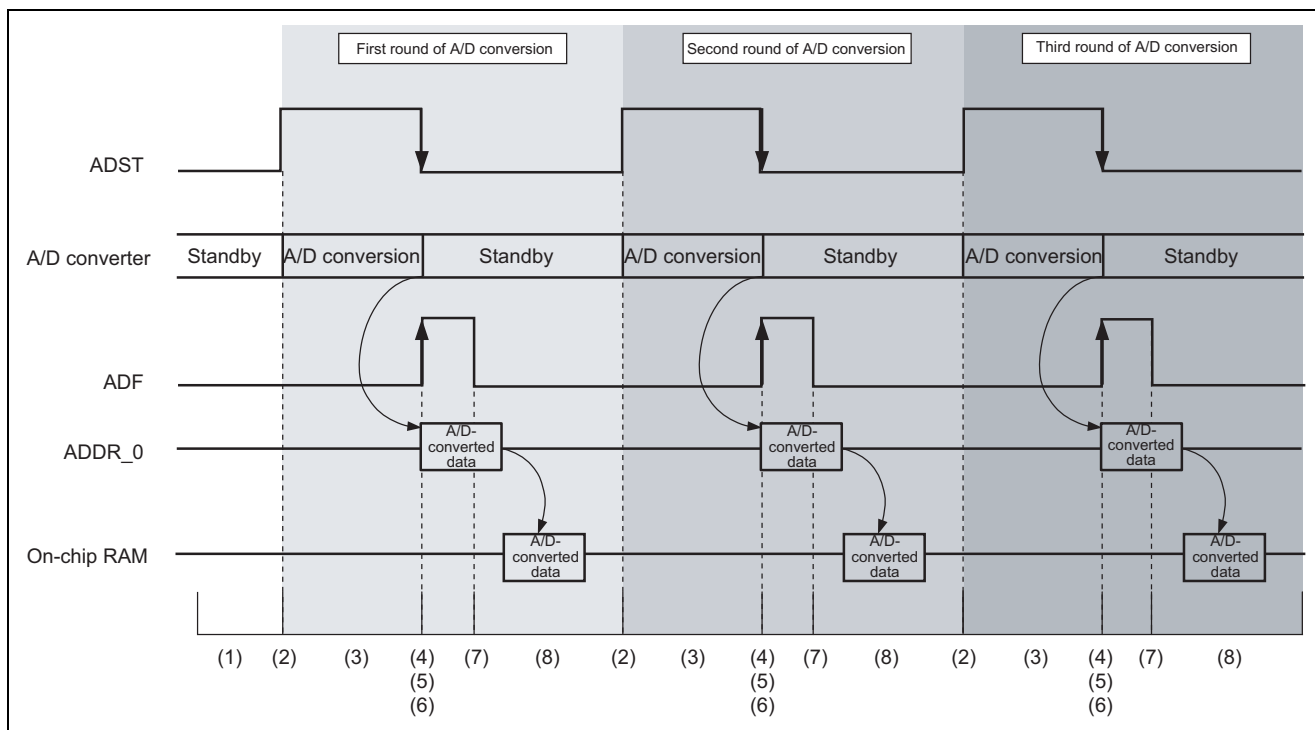

Figure 3 Operational Timing for A/D Conversion
A timing diagram of A/D conversion is given in figure 3. Processing at the numbered points is described in table 3.
In A/D conversion, firstly, the mode, channel, clock, etc., are selected with ADCSR_0 and ADCR_0 (figure 3, (1)).
Then, the ADST bit in ADCR_0 is set to 1 to start A/D conversion (figure 3, (2) and (3)). On completion of A/D conversion, the converted data are stored in bits 15 to 6 in ADDR_0 and the ADF bit is set to 1 (figure 3 (4) and (5)).
Also, the ADST bit is cleared to 0 (figure 3 (6)). After that, the ADF flag of ADCSR_0 is cleared to 0 (figure 3 (7)) and the data in ADDR_0 are stored in the on-chip RAM (figure 3 (8)).
Steps (2) to (8) in figure 3 are repeated twice.